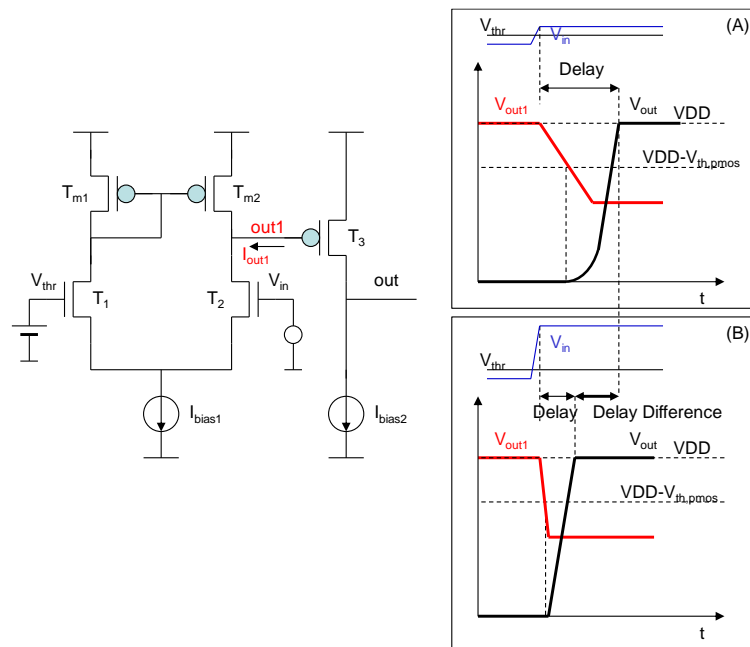

Figure 26: Comparator response to two voltage steps. Case A: input voltage step has small amplitude. Case B: input voltage step has large amplitude.
The **signal delay** can be measured from the **response to voltage steps** at the input V_{in} , as shown in **Figure 26**. The delay is **smaller** when the voltage step has a **larger amplitude** (B).